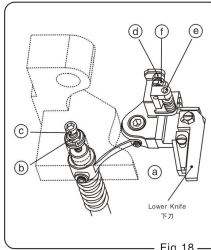

Fig.18
- When you do adjustment as requirement a), (Fig.18) loosen screw ④ and Torx screw ⑤ to make lower blade position reaches requirement a) then tighten.